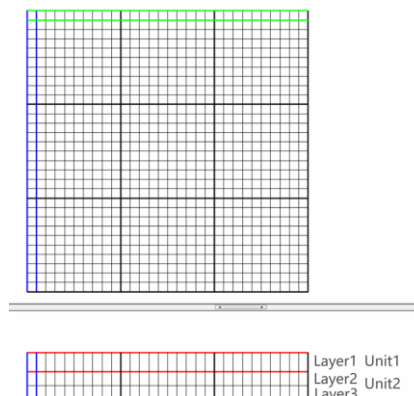

Figure 6. The Grid of Units
- 1) You can subdivide the hydrogeological unit in several layers. For example, you can divide Unit 2 in two layers so that it accounts for the location of the screen interval between 0 and 3 m. Modflow → Modflow Layer Groups → Unit 2 → Discretization. In vertical discretization, choose 2 and click OK, the default is uniform spacing. Your model now contains 2 aquifer units but three layers. You can check this in the front and side view of the grid (Figure 6).